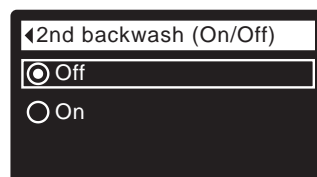

FIG. 77
- 8d. **Second backwash (On/Off):** If the desired option already has a dot next to it (See Figure 77), go to Step 9. Otherwise, press the DOWN (▼) or UP (▲) buttons to scroll to the other option, then press SELECT (O) to choose it. Setting this feature On adds a second backwash and rinse at the beginning of the recharge cycle. Default is Off. Set this feature On if your water supply contains a lot of sediment or iron.